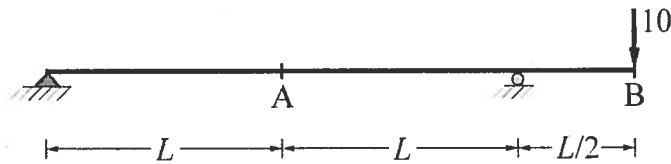

Figure 3: Simply supported girder with overhang under force at the tip
1. Determine the bending moment distribution and draw the bending moment diagram in terms of  $L$  knowing that the concentrated force of 10 units at the tip of the overhang in Fig. 3 causes an *upward translation* of the midspan point A by  $1.25 \cdot 10^{-2}$  units and a *downward translation* of the point B of load application by  $2.083 \cdot 10^{-2}$  units.